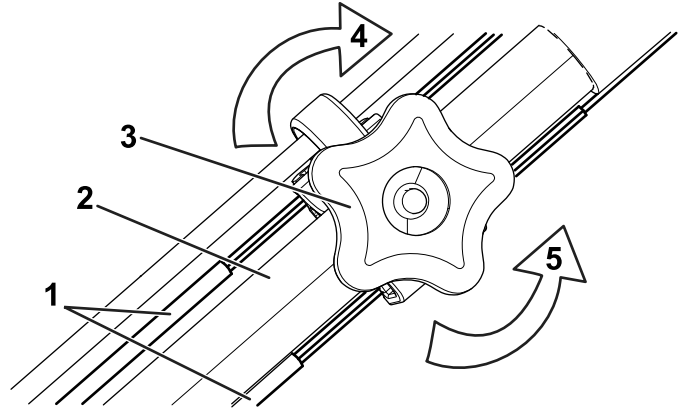

Figure 30
- Turn the adjustment knob counterclockwise to loosen the cable adjustment (Figure 30).
- Adjust the tension on the cable (Figure 30) by pulling it back or pushing it forward and holding that position.